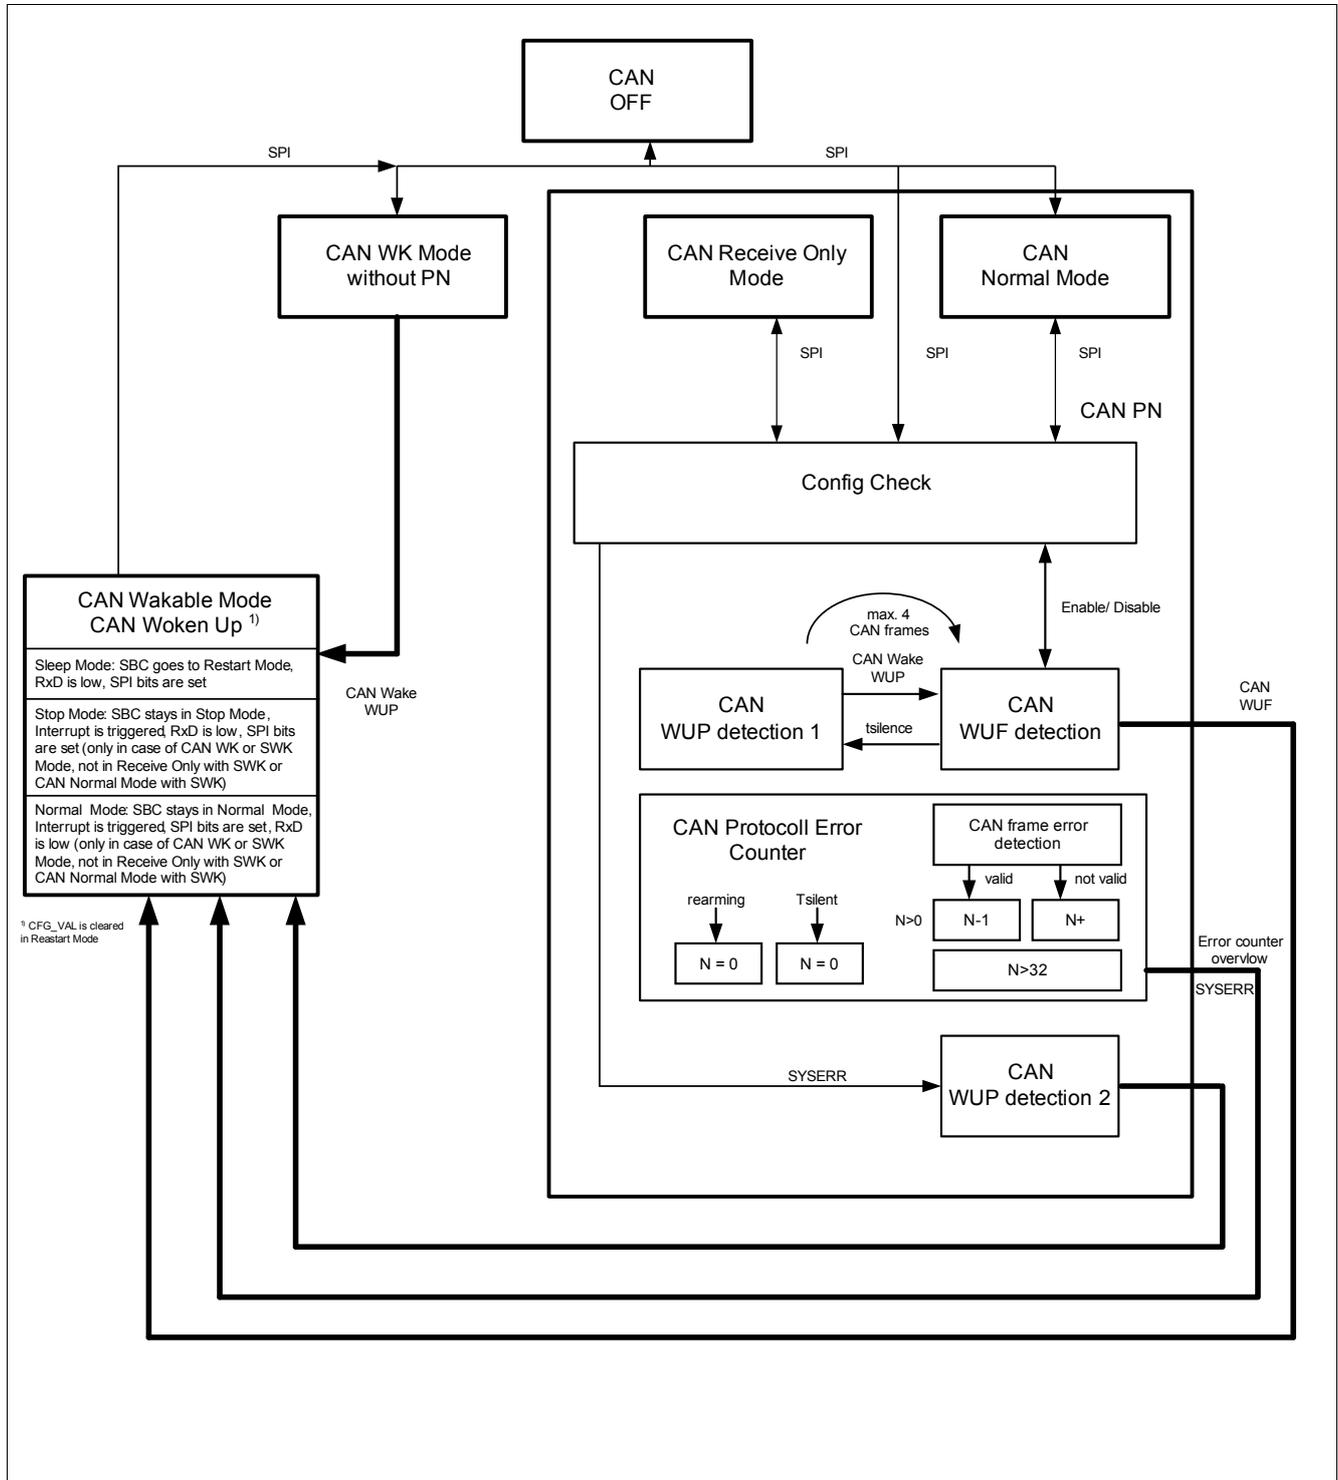

Figure 14 CAN Selective Wake State Diagram
*Note: It is possible that WUF and WUP bits are set at the same time, if a WUF causes a wake-up out of SWK, by setting the interrupt or by restarting out of SBC Sleep Mode. The reason is because the CAN has been in WUP detection 1 state during the time of SWK mode (because of  $t_{\text{SILENCE}}$ ). See also Figure 14.*
The SWK\_SET bit is set to signalize the following states (see also **Figure 14**):